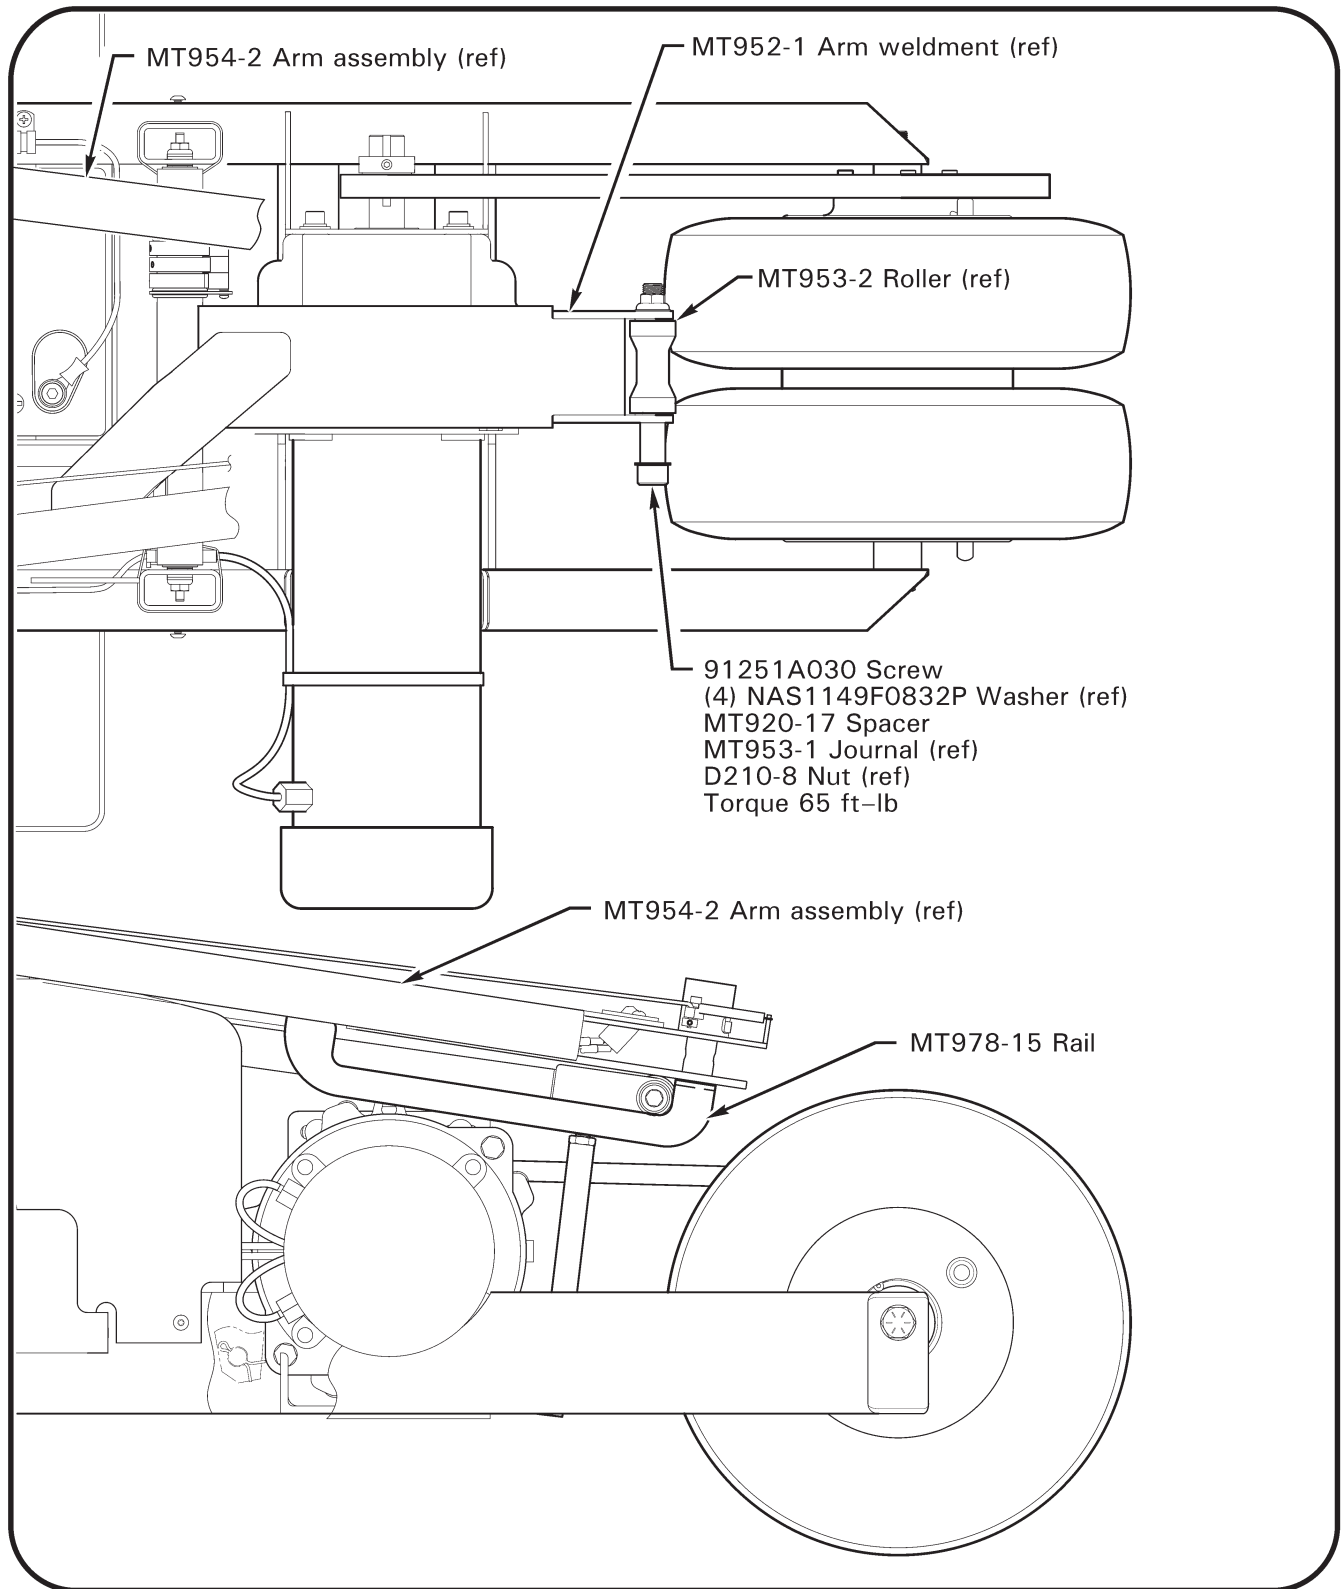

FIGURE 2 MT953-2 Roller installation
5. Refer to Figure 2. Install MT953-2 roller, MT920-17 spacer, MT953-1 journal, and associated hardware through MT978-15 rail and MT952-1 weldment as shown. Torque to 65 ft-lb.